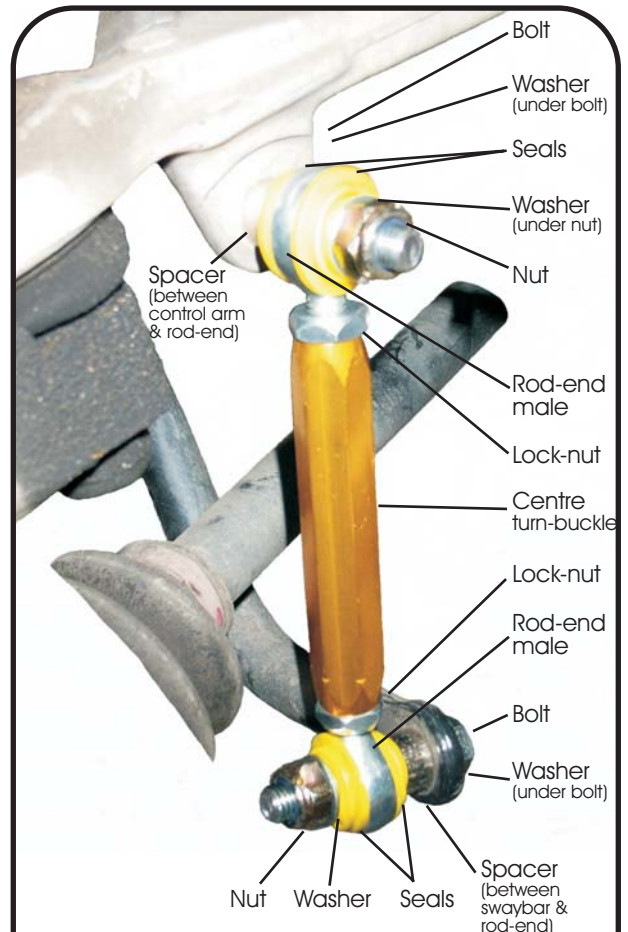

Fig1. KLC002.
3. Assemble link, placing dust seals and spacers as shown in Fig.1..